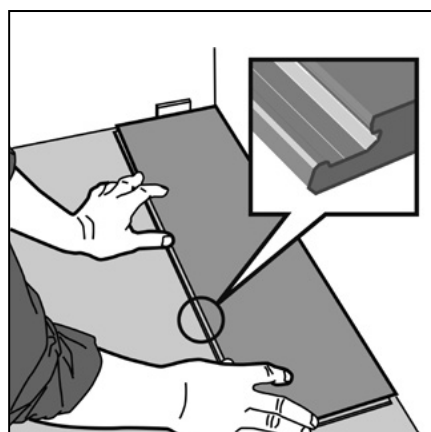

Figure 10 First plank, first row
- > Start to lay the floor in the left-hand corner of the room with the lower edge profile on the long edge facing towards you. (fig. 10)